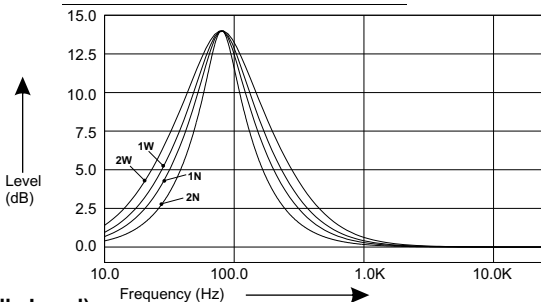

Figure 1
- The Bass-Q (Bass Quality Factor) can be adjusted as shown in Fig 1.
**Figure 1** shows the Bass Quality factor (Curve characteristics) of each step.